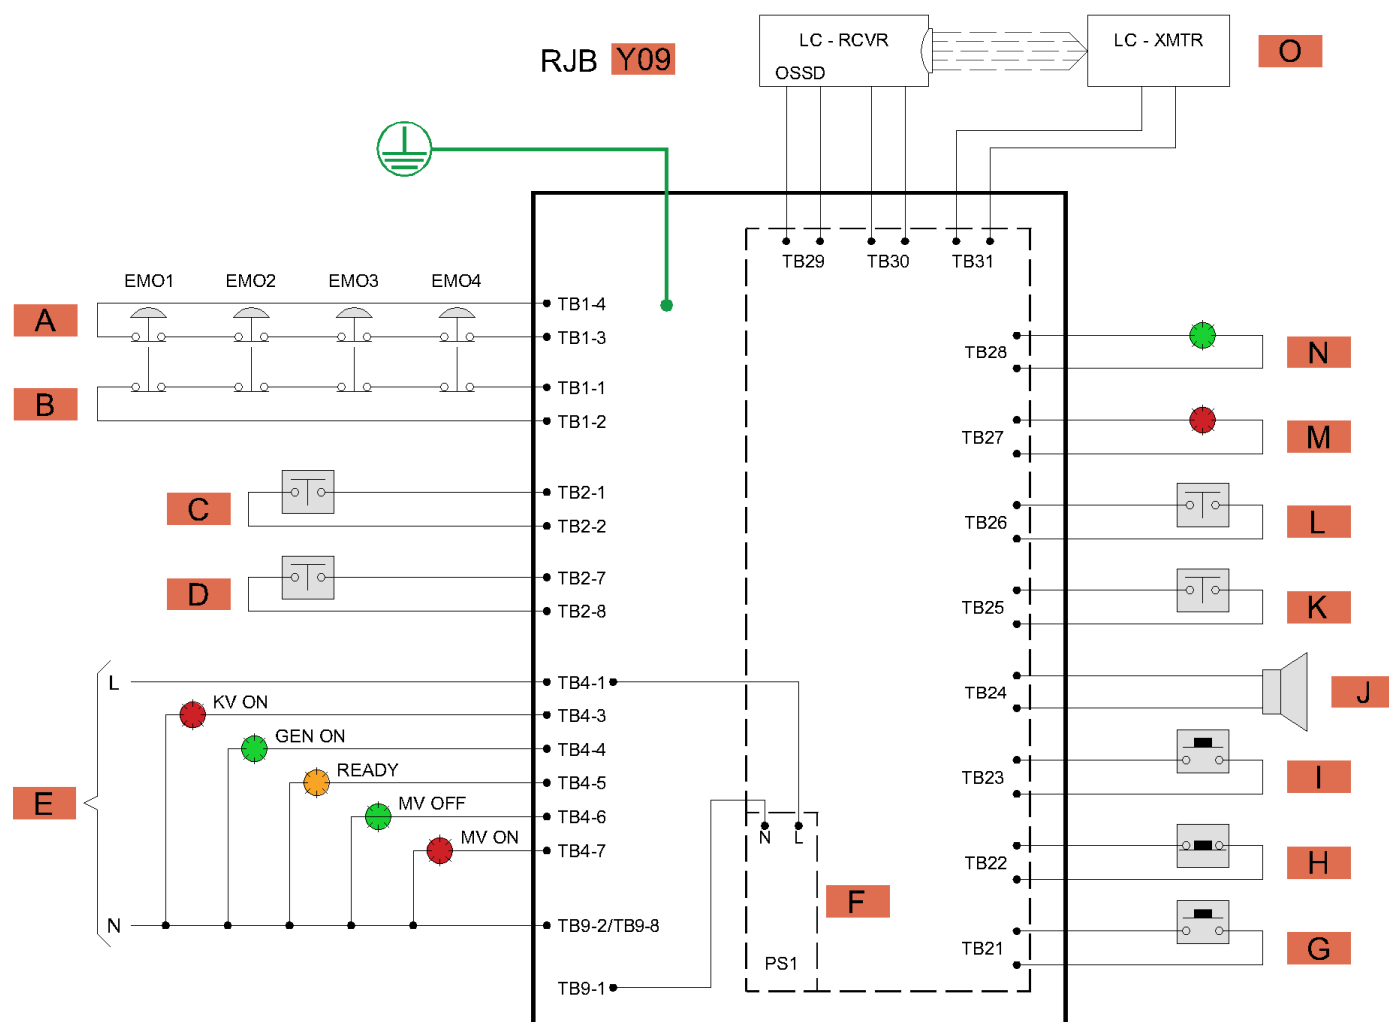

Figure 3-10 RJB Customer Connections
- (1) Dedicated G/PE conductor to the RJB (Y09) sub-panel, see Figure 3-10.